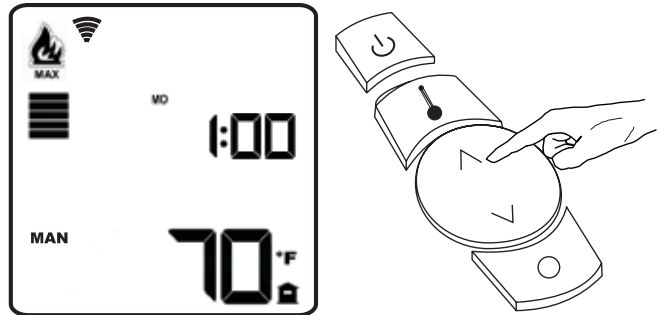

Figure 11
- Use the adjustment button on the remote to adjust the unit to the desired heat level. See Figure 11.